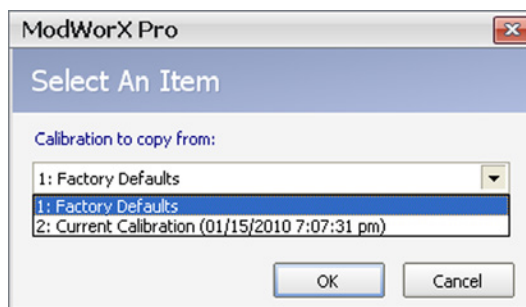

Figure 8.9
2. Select **"Factory Defaults"** or select a previously saved calibration from the dialog (Figure 8.9).